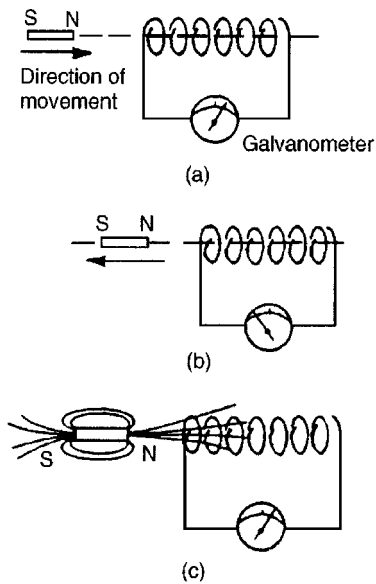

Figure 9.1
Figure 9.1 (a) shows a coil of wire connected to a centre-zero galvanometer, which is a sensitive ammeter with the zero-current position in the centre of the scale.
- (a) When the magnet is moved at constant speed towards the coil (Fig. 9.1(a)), a deflection is noted on the galvanometer showing that a current has been produced in the coil.
- (b) When the magnet is moved at the same speed as in (a) but away from the coil the same deflection is noted but is in the opposite direction (see Fig. 9.1(b)).
Figure 9.1(c) shows the magnetic field associated with the magnet. As the magnet is moved towards the coil, the magnetic flux of the magnet moves across, or cuts, the coil. **It is the relative movement of the magnetic flux and the coil that causes an e.m.f. and thus current, to be induced in the coil.** This effect is known as electromagnetic induction. The laws of electromagnetic induction stated in section 9.2 evolved from experiments such as those described above.